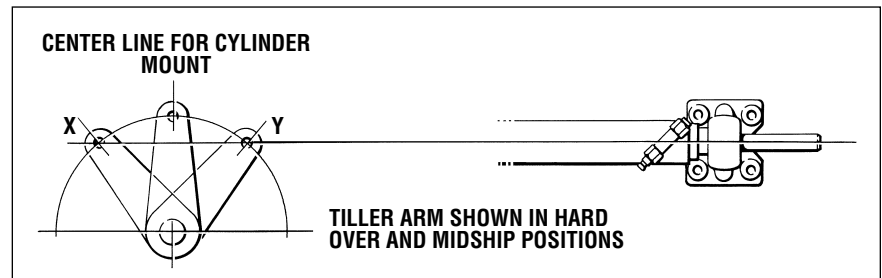

Figure 4.
1. To achieve MAXIMUM cylinder performance it is suggested that an imaginary line is drawn through the tiller arm hole at both hard over positions (see figure 4), this will create the "cylinder center line". With the tiller arm at hard over positions, angle X and Y should be the same.